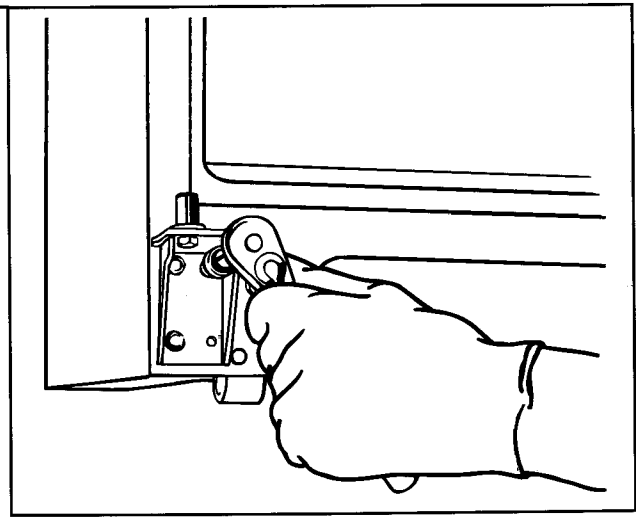

Figure 39
- e. Switch bottom hinge pin from right hex hole in bracket to left hex hole. See Figure 39. All hinge spacers and ring washers must be in place behind and on hinge pin.